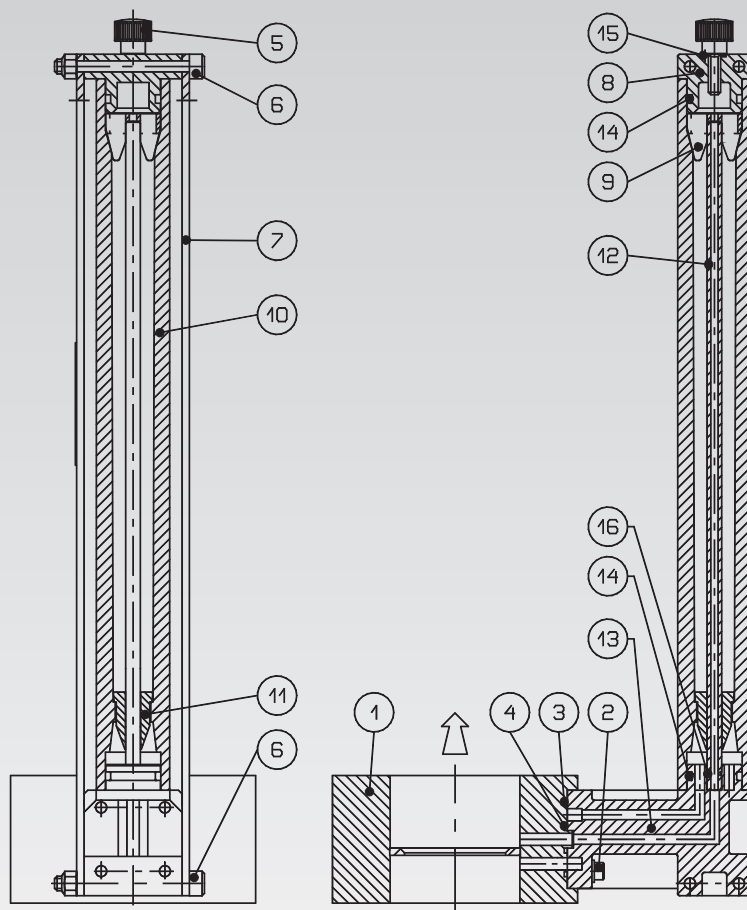

Figure 1
5. Setting At Work (Fig.1)
7. Maintenance (Fig.1)